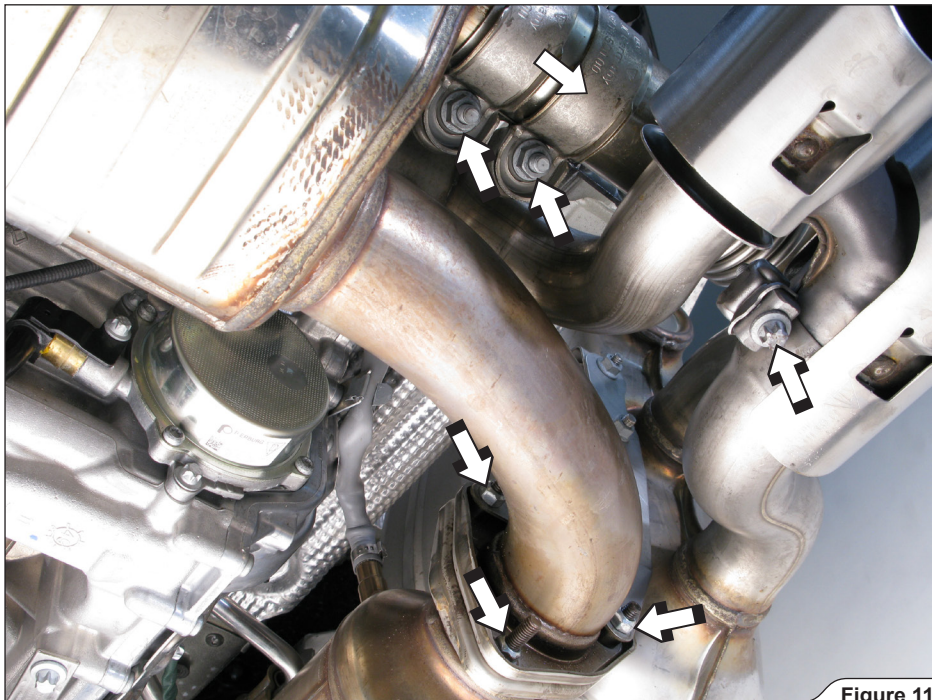

Figure 11
7. Loosen the clamp and remove the tail pipes, loosen the double clamp and slide it out off the joint and unscrew the three marked nuts (**Figure 11**). Repeat the procedure on both sides of the vehicle.